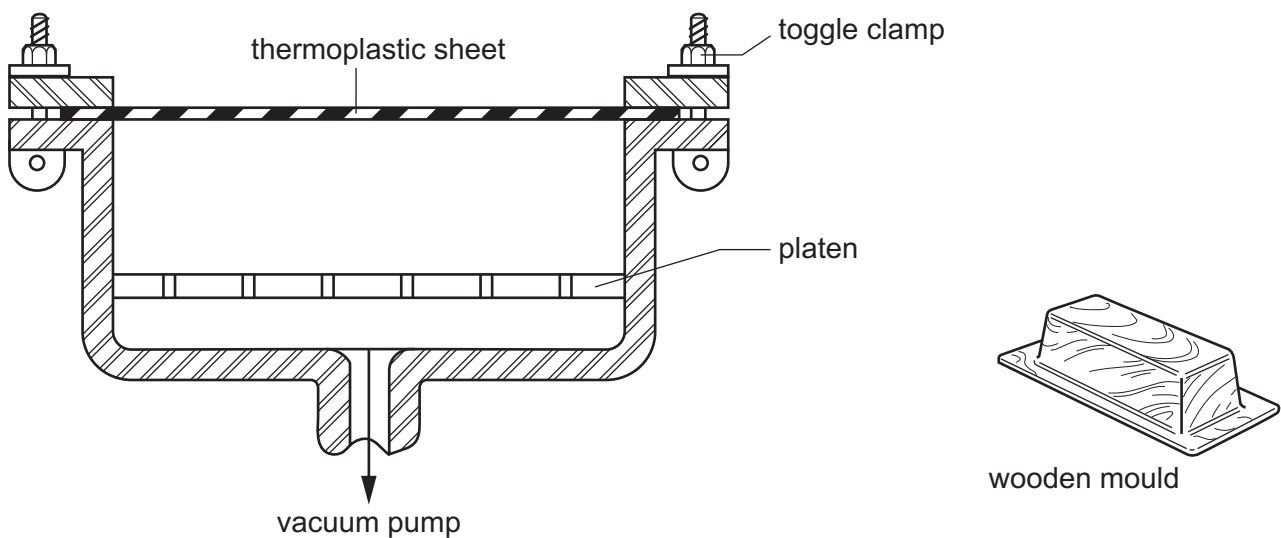

Fig. 10.1
- 10 Fig. 10.1 shows a sectional view through part of a vacuum forming machine and a wooden mould that will be used when vacuum forming the thermoplastic sheet.
Add sketches and notes to the vacuum forming machine shown in Fig. 10.1 to show the position of: